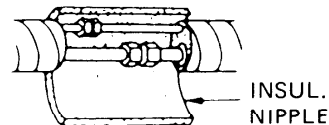

Fig. 29
3. After performing a leak test on the connecting part, insulate it with INSUL. NIPPLE and finish with a vinyl masking tape over it. Fig. 29